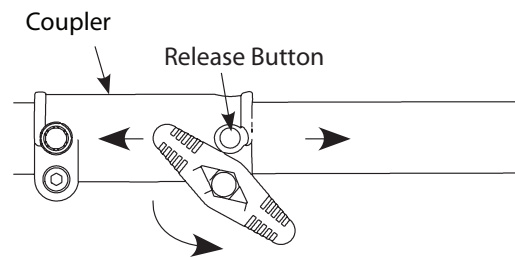

Fig. 12
1. Turn the knob counterclockwise to loosen (Fig. 12).
2. Press and hold the release button (Fig. 12).
3. While firmly holding the upper shaft housing, pull the cutting attachment or add-on straight out of the coupler (Fig. 12).